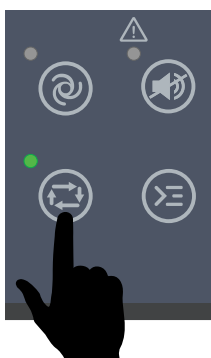

Figure 97. Semi-Auto Mode Button
1. On the digital controller, press the **Semi-Auto Mode button** as shown in Figure 97. The **green LED** next to the button will light up, and the status message **ISLAND SEMI** will appear on the screen (Figure 54).